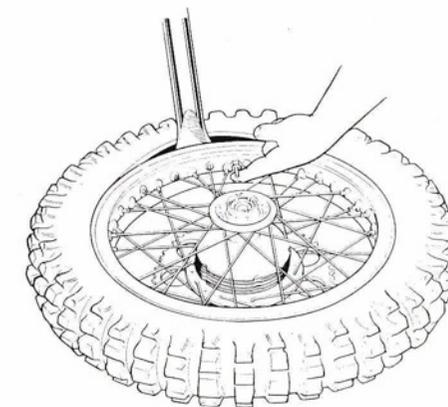

Fig. 60 Refitting the second bead with the security bolt in position.
- 6 Ensure that the first bead fits as far as possible into the well of the rim and, starting opposite the valve, insert a tire lever as close as possible to the point where the bead passes over the flange. Lever the bead over the rim, working round in 3 to 4 in. intervals and checking continually that the security bolts are pressed well inside the tire (see Fig. 60) so that the tube is not nipped.